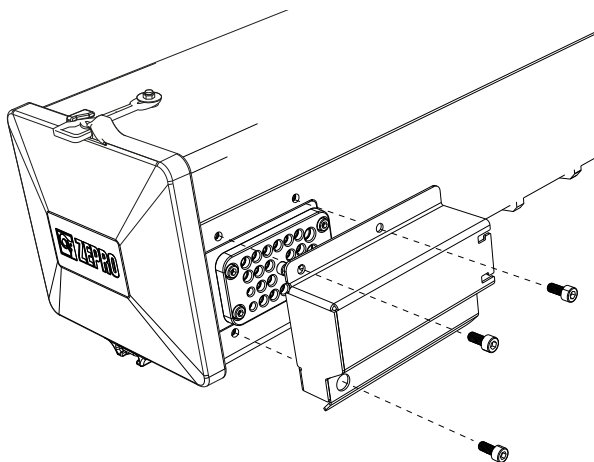

Figure 54. Fasten the cable grommet's protective cover with three screws
1. Disconnect the cable grommet's protective cover, which is secured with three screws; see Figure 54.
2. Install the cable grommet's protective cover with the three bolts provided, see Figure 54. Tightening torque: 8 Nm.